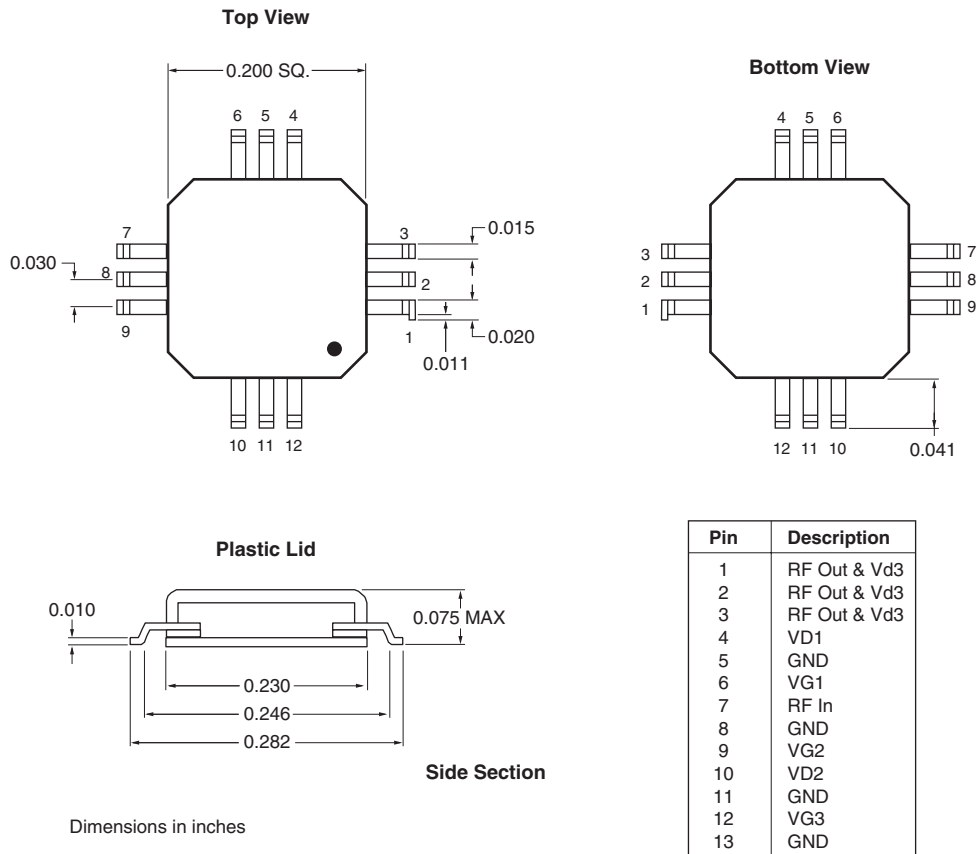
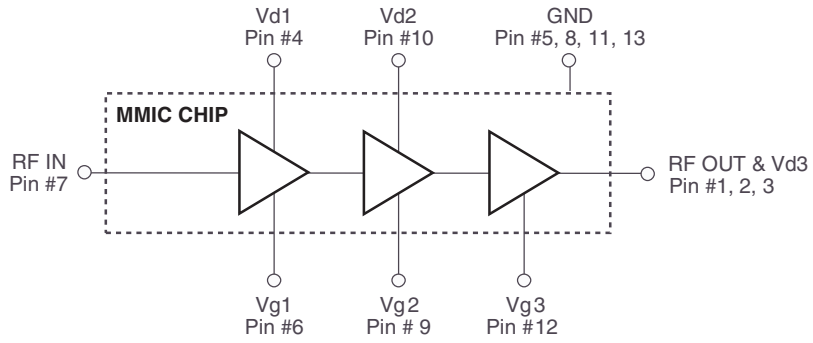
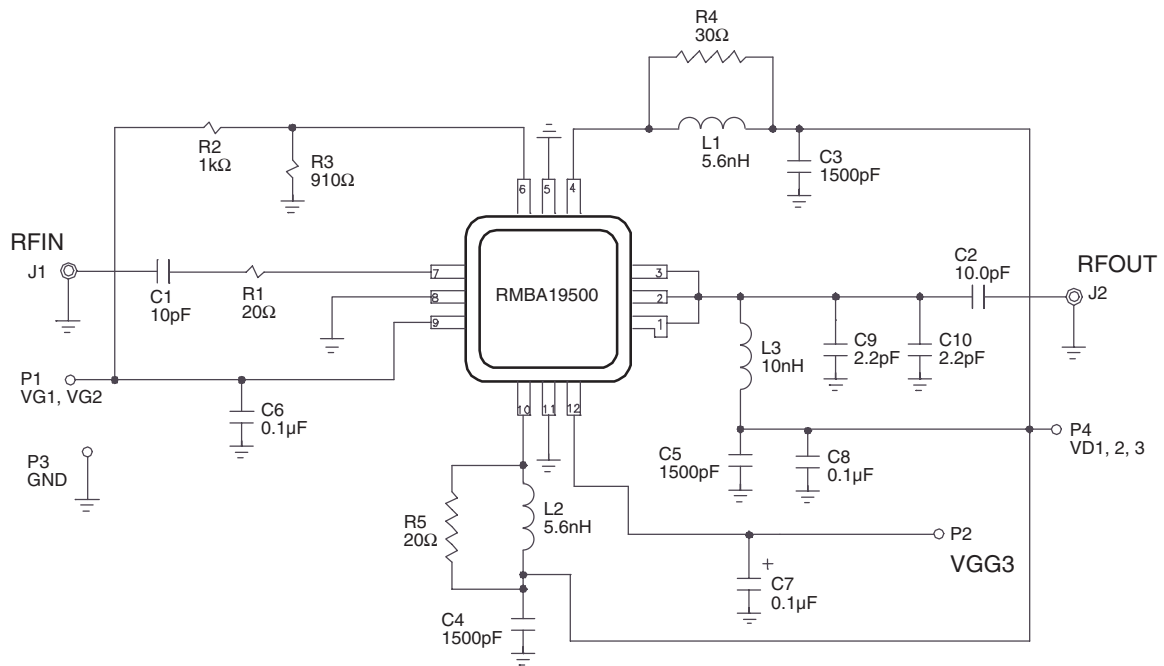
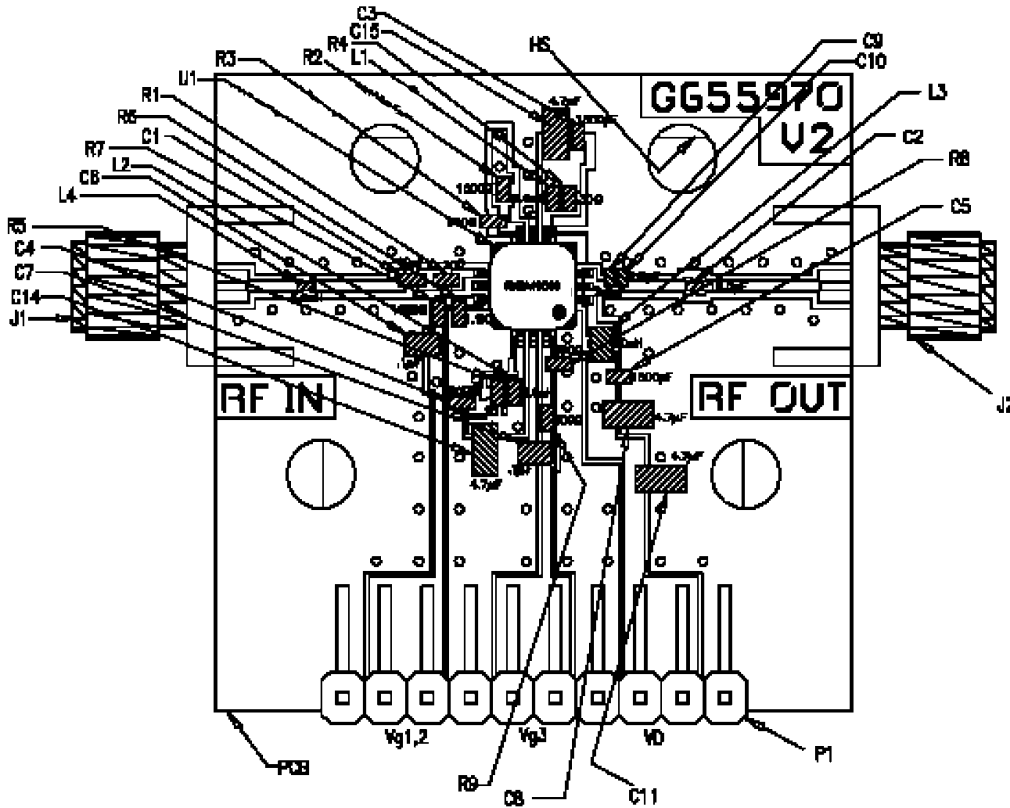

Figure 1. 12 Lead Plastic Air Cavity Package with Integral Heat Sink
Figure 2. Functional Block Diagram of Packaged Product
Figure 3. Schematic of Application Circuit Showing External Components
Figure 4. Layout of Test Evaluation Board (RMBA19500-TD, G655971)
The device requires external input and output matching to 50Ω as shown in Figure 3 and the Parts List.
The following describes a procedure for evaluating the RMBA19500, a monolithic high efficiency power amplifier, in a surface mount package, designed for use as a driver stage for PCS Base station or as the final output stage for Micro- and Pico-Cell base stations. Figure 1 shows the package outline and the pin designations. Figure 2 shows the functional block diagram of the packaged product. The RMBA19500 requires external passive components for DC bias and RF input and output matching circuits. A recommended schematic circuit is shown in Figure 3. The gate biases for the three stages of the amplifier may be set by simple resistive voltage dividers. Figure 4 shows a typical layout of an evaluation board, corresponding to the schematic circuits of Figure 3. The following designations should be noted:
- (1) Pin designations are as shown in Figure 2.
- (2) Vg1, Vg2, and Vg3 are the Gate Voltages (negative) applied at the pins of the package.
- (3) Vgg1, Vgg2 and Vgg3 are the negative supply voltages at the evaluation board terminals (Vg1 and Vg2 are tied together).
- (4) Vd1, Vd2 and Vd3 are the Drain Voltages (positive) applied at the pins of the package.
- (5) Vdd is the positive supply voltage at the evaluation board terminal (Vd1, Vd2, and Vd3 are tied together).